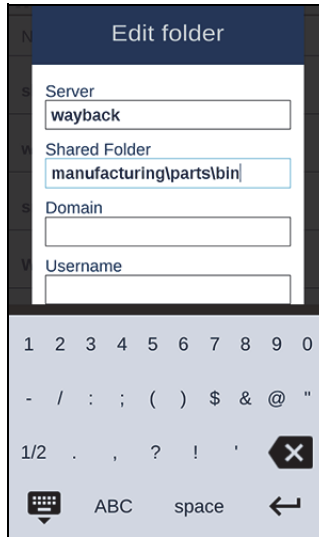

Figure 4-6 Edit Folder (editing enabled)
4. Tap in a field, and then edit the information (see Figure 4-6 on page 118).